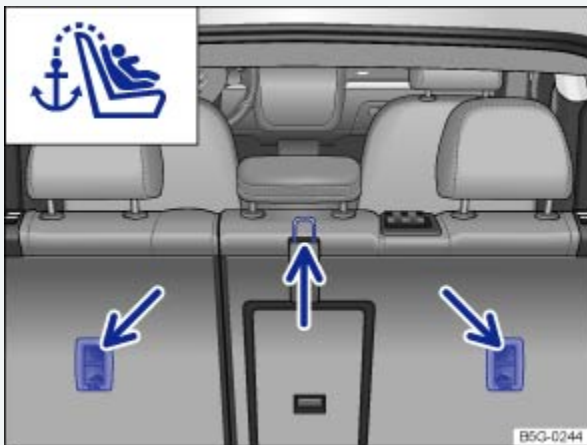

Fig. 83 Anchorages for the top tether strap on the back of the rear seat.
- Attach the tether strap anchorage hook into the opening of the tether anchorage ⇒ Fig. 83.